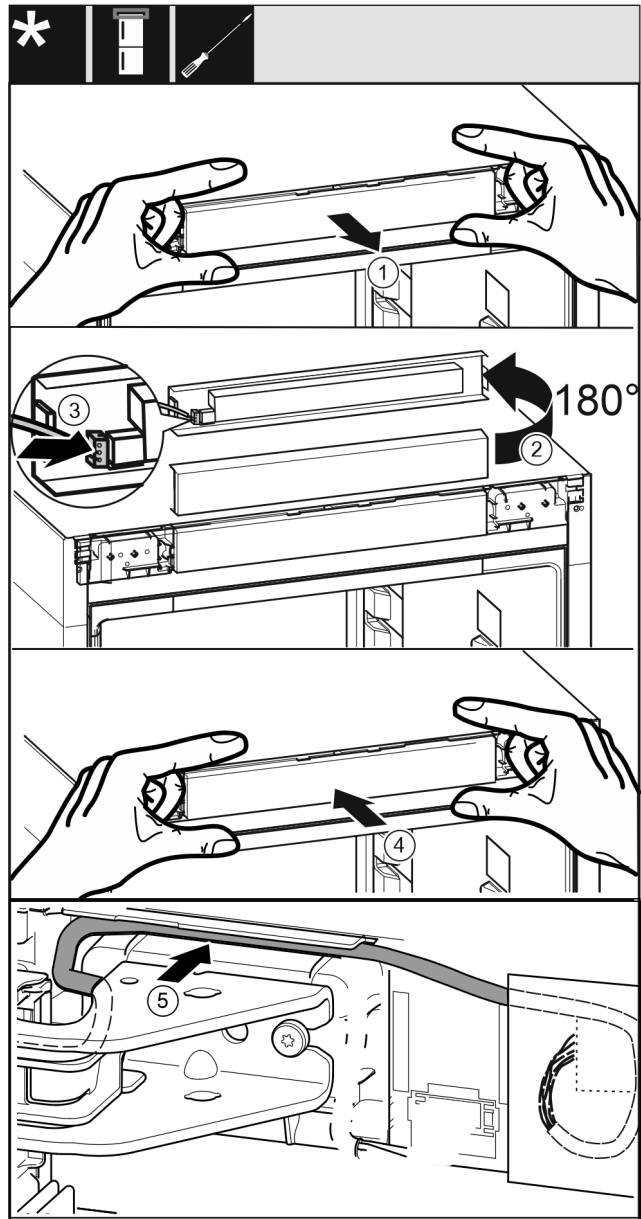

Fig. 48
- ▶ Carefully pull out the control plate Fig. 48 (1).
- ▶ Turn the control plate Fig. 48 (2) upward by 180°.
- ▶ Snap the plug Fig. 48 (3) into place on the control unit panel.
- ▶ Snap the control plate Fig. 48 (4) back onto the appliance.
- ▶ Carefully insert the cable Fig. 48 (5) into the guide above the top swap bearing block.